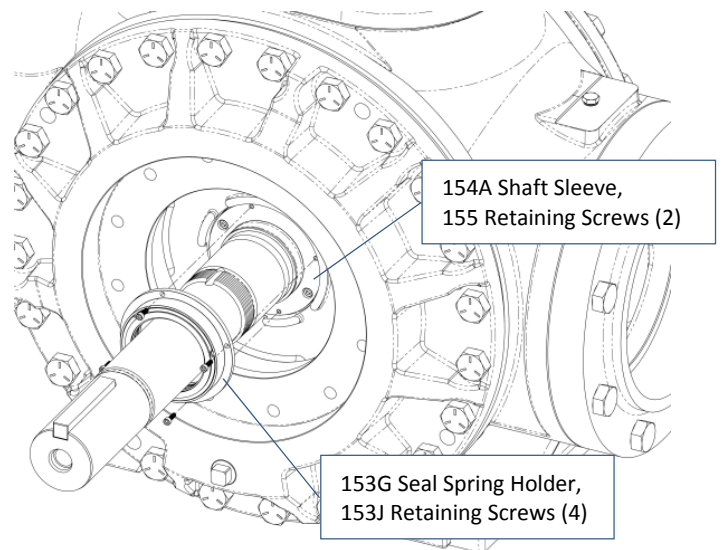

Figure 6 – Seal removal and Installation
9. Remove the remaining mechanical seal parts, including the seal spring holder, springs, retaining ring, rotating O-ring and face (153G, 153H, 153N, 153L, 153F) from the shaft sleeve (154) by removing capscrews (153J). See Figure 6. Take care to protect the carbon rotating face from damage during disassembly. Remove and discard rotating O-ring.
5. Move to the outboard side of the pump and remove the outboard bearing cover capscrews (28) and slide the outboard bearing cover (27) and gasket (26) off the shaft. Discard the bearing cover gasket.
6. Bend up the engaged lockwasher tang and tighten the locknut (24A) on outboard end until shaft cannot be rotated by hand. This will ensure proper rotor/shaft (13) alignment during reassembly.
8. Remove the capscrews (21A) from the inboard hub (20C) and slide the hub assembly off the shaft. The bearing (24), grease seal carrier assembly (104B, 104A and 104C), stationary seat (153B) and stationary O-ring (153D) of the mechanical seal will come off with the hub.
- a. Pull the bearing (24) and grease seal carrier assembly (104B, 104A and 104C) from the housing in the hub.